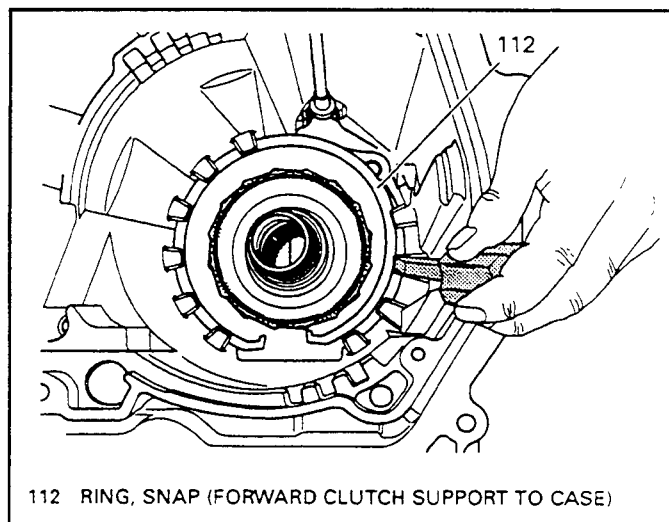

Figure 112
9. Install the forward clutch snap ring (112) into the transaxle case with the chamfer side facing up as shown in Figure 112.
10. The snap ring opening must be toward bottom of the case facing the bottom pan as shown in Figure 112.
11. Use a screwdriver to set the snap ring in place, as shown in Figure 112.